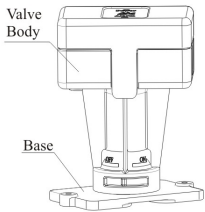
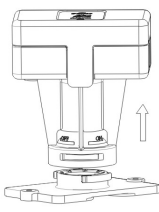

Figure 4
Figure 5
- b. Unscrew the valve body from controller base (As Figure 4 showed there is an arrow indication), take out the valve body upwards (As Figure 5 shows).